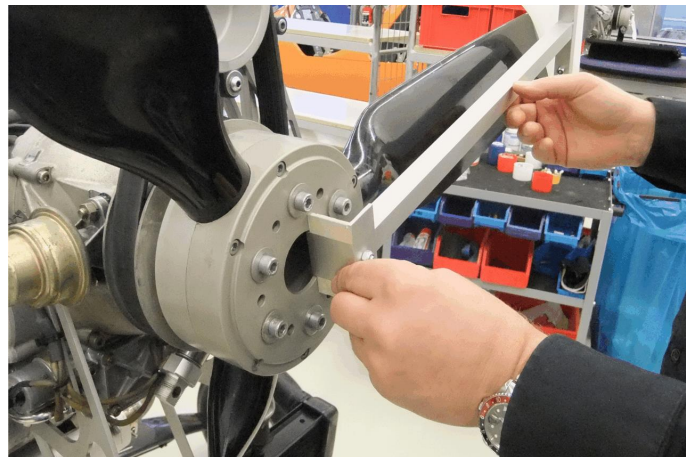

Fig. 2 - Propeller pitch adjustment and tool
- 2 Pin assignment of wiring harness - top to bottom (Fig. 2):